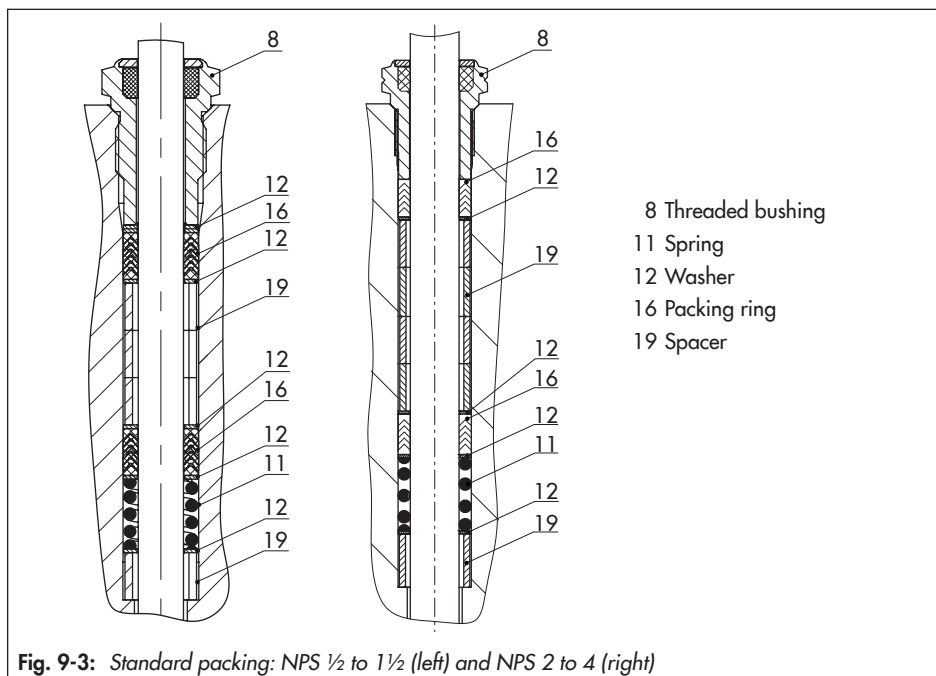

Fig. 9-3: Standard packing: NPS ½ to 1½ (left) and NPS 2 to 4 (right)
12. Carefully slide the packing parts over the plug stem into the packing chamber using a suitable tool. Observe the proper sequence (see Fig. 9-3).
13. Firmly press the plug (5) into the seat (4). Fasten down the flange (2) with the body nuts (14). Tighten the nuts gradually in a crisscross pattern. Observe tightening torques.
14. Screw in the threaded bushing (8) and tighten it. Observe tightening torques.
15. Place yoke (3) on the flange (2) and fasten using the castellated nut (92).
13. Firmly press the plug (5) into the seat (4). Fasten down the insulating section (21) with the body nuts (14). Tighten the nuts gradually in a crisscross pattern. Observe tightening torques.
15. Place yoke (3) onto the insulating section (21) and fasten using the castellated nut (92).
16. Loosely screw the lock nut (10) and stem connector nut (9) onto the plug stem.
16. Carefully slide the packing parts over the plug stem into the packing chamber using a suitable tool. Observe the proper sequence (see Fig. 9-3).
17. Firmly press the plug (5) into the seat (4). Fasten down the flange (2) with the body nuts (14). Tighten the nuts gradually in a crisscross pattern. Observe tightening torques.
18. Screw in the threaded bushing (8) and tighten it. Observe tightening torques.
19. Place yoke (3) on the flange (2) and fasten using the castellated nut (92).
20. Loosely screw the lock nut (10) and stem connector nut (9) onto the plug stem.